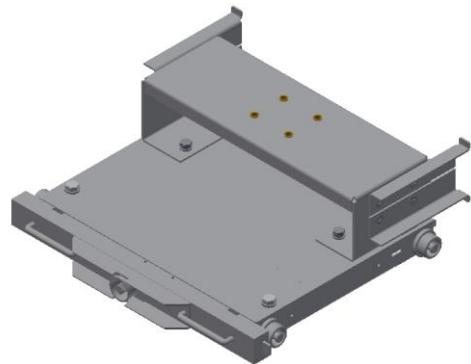

Fig. 4-19 Shutter lifter truck for busbar and cable side shutters
- For busbar and cable side shutters: Fit push plate as indicated on the picture Fig. 4-19.